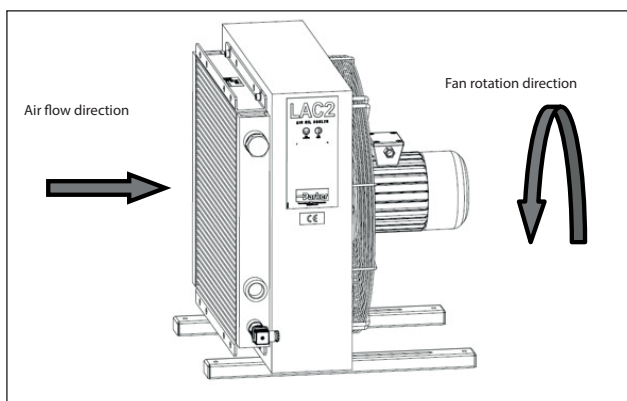

Fig. 24
6. In operation, check that when the fan is turned on, the direction of rotation and air flow match with the diagram in Fig. 24.